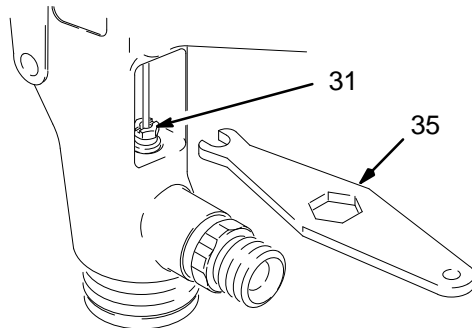
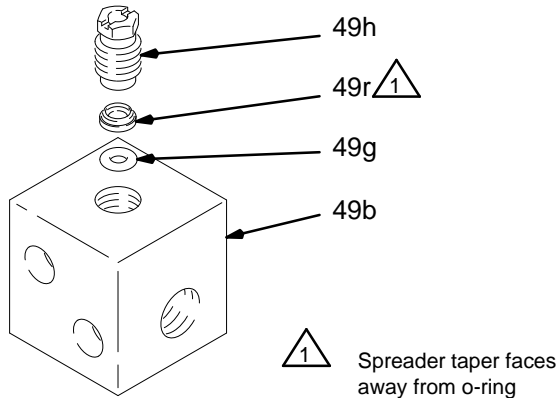

Fig. 39
Fig. 41 02781A
- Tighten the packing adjustment nut (31) with the gun wrench (35) until you can feel a slight drag on the fluid needle. See Fig. 39. Do not over-tighten the screw as this may bind the needle movement.
- b. Install the o-ring (49g), spreader (49r), and activator packing nut (49h) into the housing (49b), orientated as shown in Fig. 41. Start the packing nut threads, then install the needle (49d). Tighten the packing nut to 20 in-lbs (2.3 N•m).
18. Secure the activator valve (49) to the plate (2) with the two screws (53). Tighten the screws to 10 to 15 in-lbs (1.1 to 1.7 N•m).
19. Place the o-ring (49e) in the groove on the plate (2). Lightly lubricate the o-ring, and slide the plate, with the activator valve assembly, onto the top of the gun body.
20. Install the gun and activator triggers (3 and 48). Tighten the screw (5) to 25 to 35 in-lbs (2.8 to 4.0 N•m).
21. Trigger the gun to test the fluid needle (21) movement. If the fluid needle does not return after the trigger (3) is released or returns slowly, loosen the packing adjustment nut (31) until the needle returns freely. See Fig. 39. Repeat this process to test the activator needle (49d).